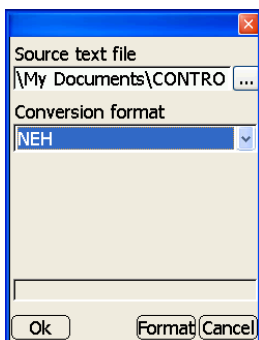

Figure 3-12. Import Dialog Box – Select Conversion Format
3. On the **import** dialog box, select a conversion format from the drop-down list (Figure 3-12 on page 3-8). If no conversion formats are listed or you need a new format, see “Creating Conversion Formats” on page 3-3 for more information.